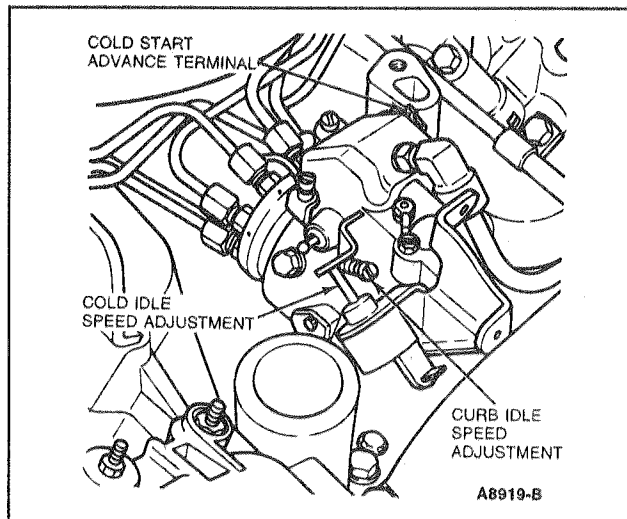

Figure 12 Idle Speed Adjusting Screw
5. Check curb idle speed, using Rotunda 099-00001 or equivalent. Curb idle speed is specified on the Vehicle Emissions Control Information (VECI) decal. Adjust to specification using idle speed adjusting screw (Fig. 12).
6. Check fast idle speed setting. Fast idle rpm should be  $875 + 25$ . Adjust to specification by turning solenoid plunger in or out (Fig. 12).
4. Connect dynamic timing meter to battery and dial in minus 20 degrees offset on meter. Disconnect cold start advance solenoid connector from solenoid terminal (Fig. 12).